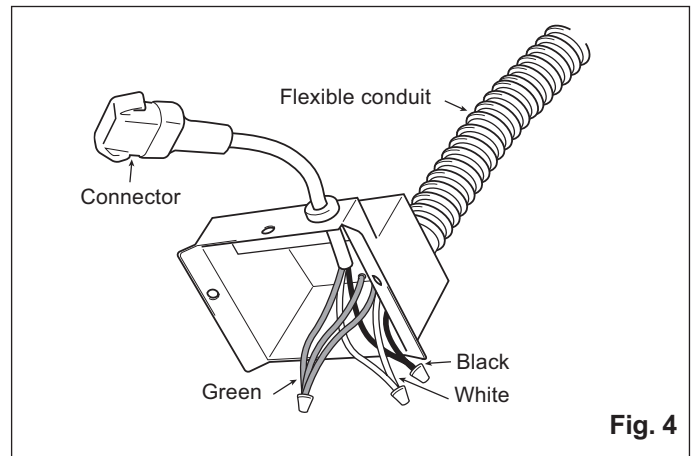

Fig. 4
6. Refer to the wiring diagram above. Using the wire nuts, connect the house power wires to ventilating fan wires. (Fig. 4): black to black; white to white; green to greens. Reattach the junction box cover.
10. Refer to the wiring diagram above. Using the wire nuts, connect the house power wires to ventilating fan wires. (Fig. 4 on page 5): black to black; white to white; green to greens.